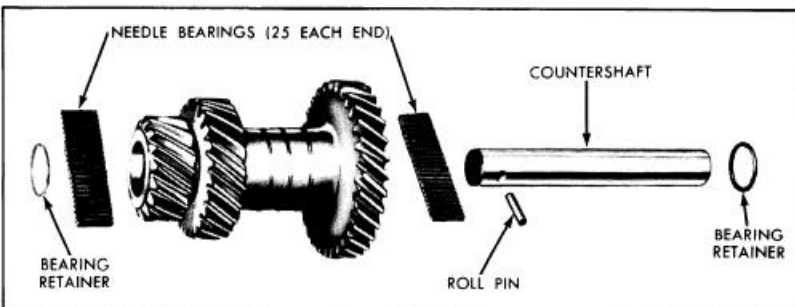

Figure 4-22—Exploded View of Countershaft
2. Assemble the countergear, dummy shaft, bearings, thrust washers, and place in bottom of case. The countergear will remain in the bottom of the case until the main and input shafts have been installed. See Figure 4-22.